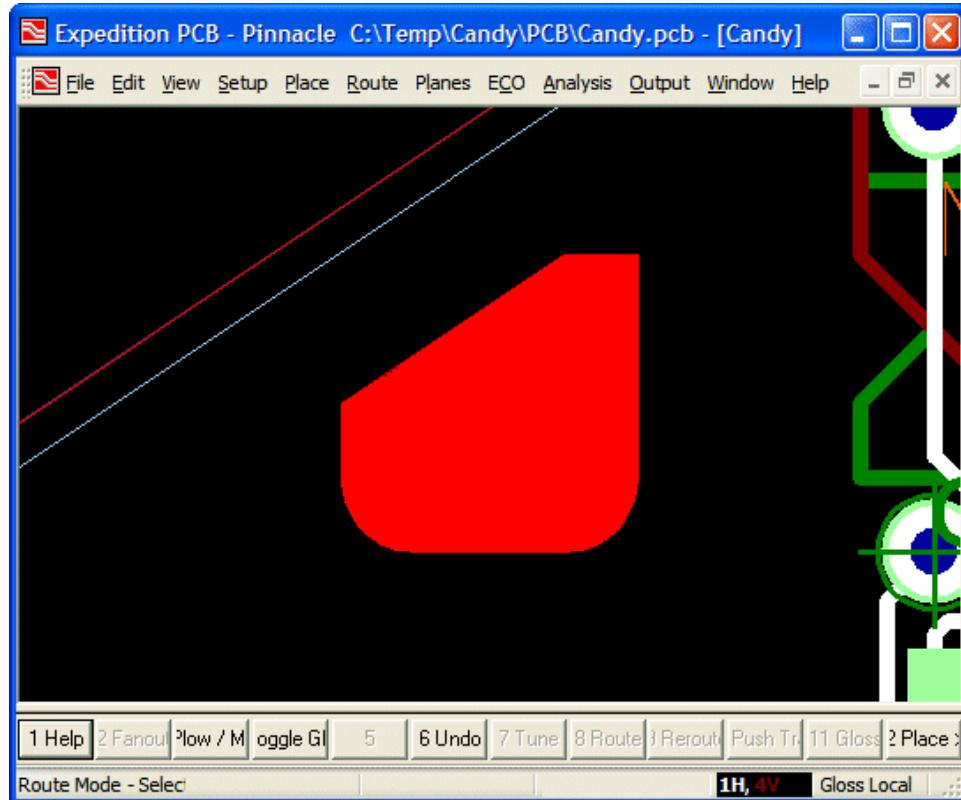

Figure 12-19. Using the PutUserLayerGfx.vbs script to add a graphical element.
- 3) Drag the *PutUserLayerGfx.vbs* script from your *C:\Temp* folder, drop it on top of the design, and observe the resulting shape appear as illustrated in Figure 12-19.